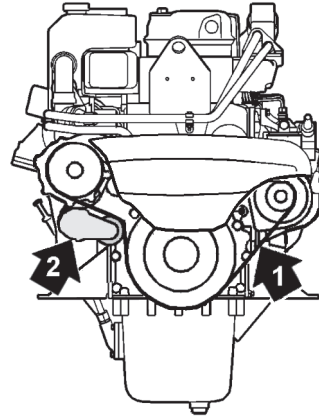

Figure 10
1. Check the belt by pushing on the middle of the belt (**Figure 10, (1)**) with your finger, exerting a force of approximately 98 N, 10 kgf (22 lbf). With proper tension, the belt should deflect 8 - 10 mm (0.315 - 0.393 in.).